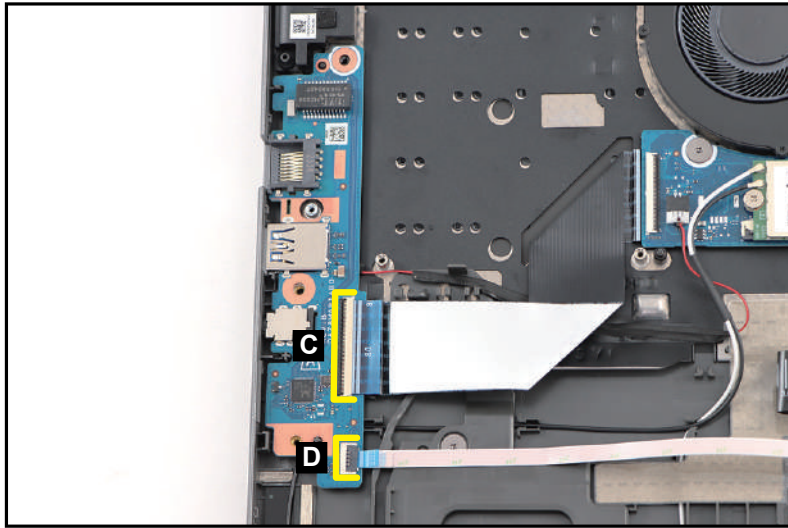

Figure 3-43. USB Board Removal
3. Disconnect the USB board FFC from the USB board connector (C). Then disconnect the fingerprint FFC from the USB board connector (D) (Figure 3-43).